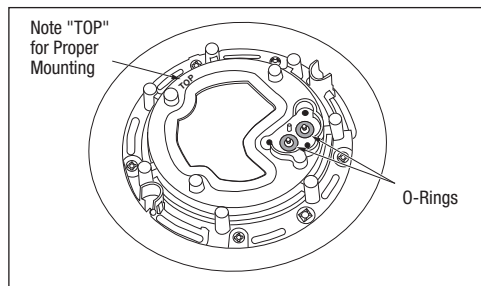
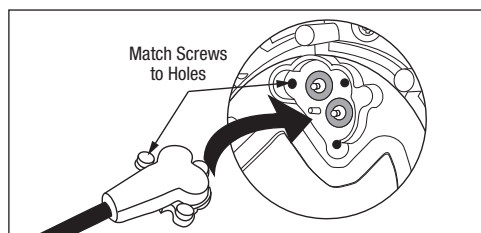

Figure 1. LumiPower for Concrete - Back of Light Engine
Figure 2. Plug and Socket Alignment
3. Remove the light engine from its packaging. Insert the two O-Rings (from kit P/N 20350) into the grooves on the back of the light and double-check that they are positioned correctly, as shown in *Figure 1* and *Figure 2*.
4. Align the plug with the socket on the light and use the three screws (from kit P/N 20350) to attach the plug securely to the light. Tighten these screws firmly by hand only; do not use a power tool. See *Figure 2*.
NOTE: Plug and socket can only be engaged in one position as depicted. Before applying any force to the plug and socket, check both parts are aligned as shown in *Figure 2*.
6. Locate the "TOP" marking on the rear of the light. See *Figure 1*.